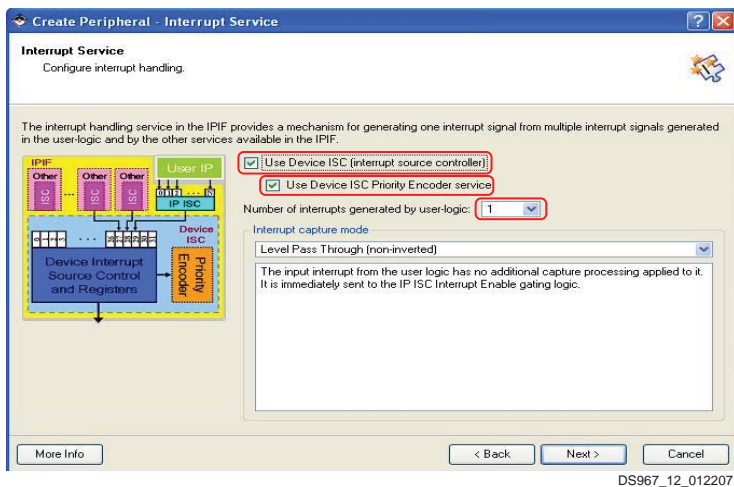

Figure 12: Interrupt Service Configuration
10. In the Interrupt Services window, configure the IP interrupt services by making the selections as shown in Figure 12, then click **Next**.